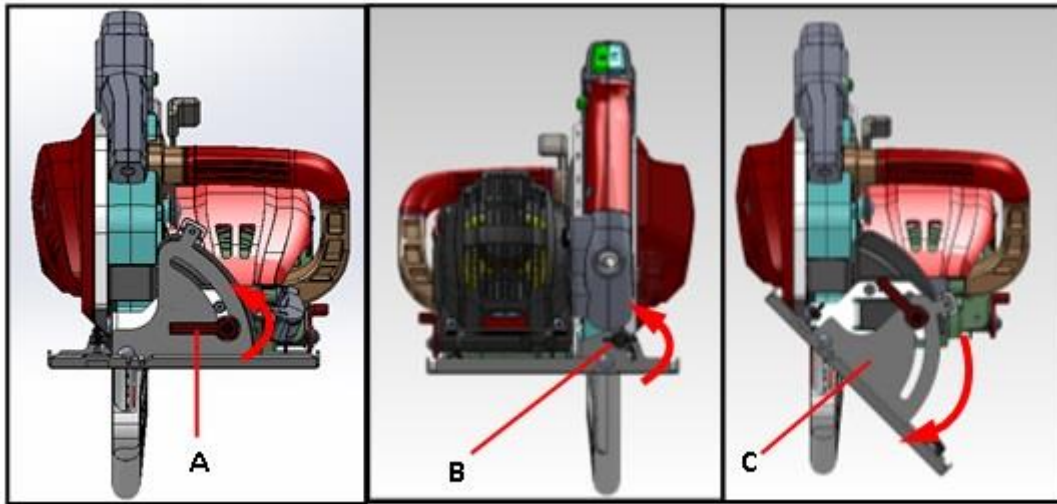

Fig7
Release the lock lever (A) and the wing nut (B) to change the bevel plate angle between 0° and 45°. Once the angle is set, re-tighten the lock and lever and wing nut. **Fig. 7.**